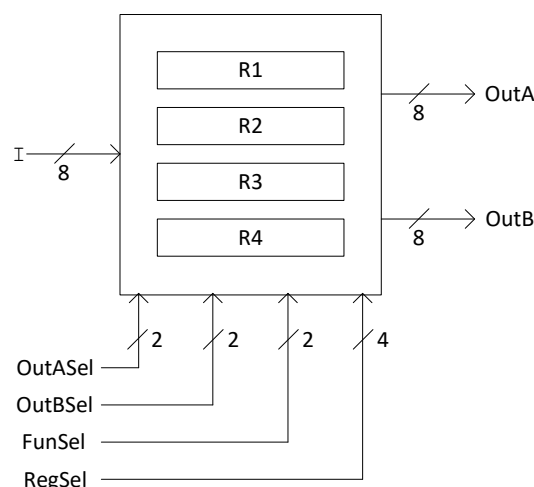

Figure 2: 8-bit general purpose registers, inputs, and outputs
**(Part-2a)** Design the system shown in Figure 2 which consists of four 8-bit general purpose registers: **R1**, **R2**, **R3**, and **R4**. The details of inputs and outputs are as follows.